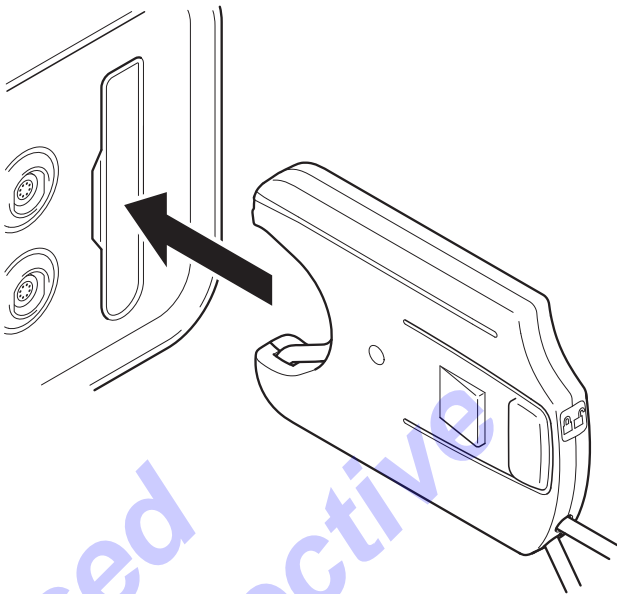

Figure 8 – To Insert an Irrigation Cassette
- 7.2. Insert an irrigation cassette (*Figure 8*).